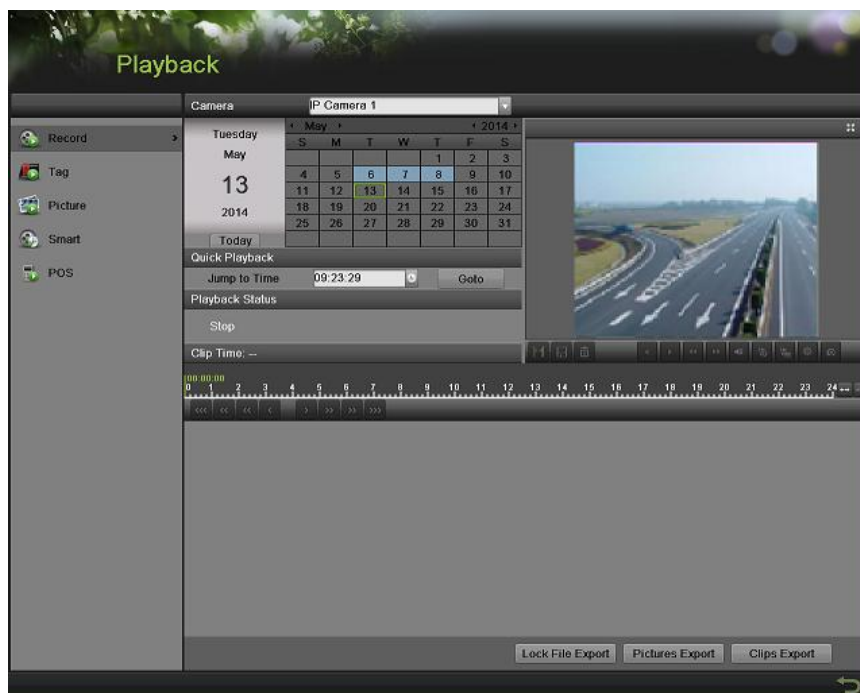

Figure 68 Playback Menu
1. Enter the Playback Interface, shown in Figure 68 by going to Menu > Playback > Record.